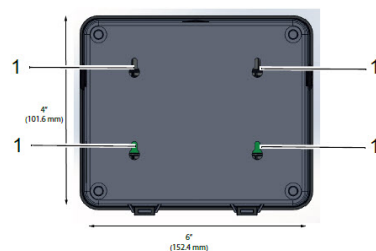

Figure 3 Back of device
- With the appropriate hardware. Make sure the hardware is suitable for the mounting surface and can withstand 40 lb (18 kg) without loosening or causing damage to the hardware or mounting surface. Use all four mounting holes provided on the device (See Fig. 3).